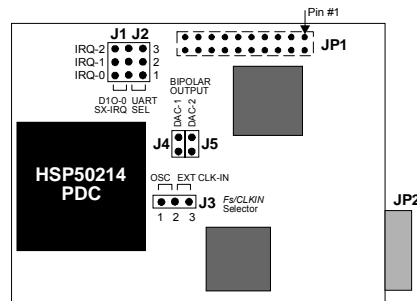

Fig. A-1. On-board sockets, connectors and configuration jumpers for *T/SDAS-DDC1* DCM.
*T/SDAS-DDC1* DCM (fig.1-1, fig.A-1) meets standard SIOX rev.B daughter-card form-factor. Construction of *T/SDAS-DDC1* DCM assumes that host *TORNADO* DSP system with *T/SDAS-DDC1* DCM installed fits into one ISA-bus slot of PC chassis.
Connection of *T/SDAS-DDC1* DCM to external analog I/O equipment is performed by means of on-board JP2 connector (fig.A-1) and external I/O cable set (Appendix C).
The on-board sockets, connectors and configuration jumpers are presented at fig.A-1.